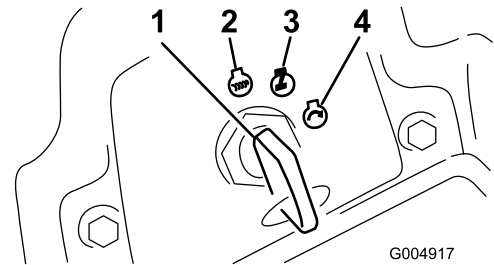

Figure 19
6. Turn the ignition key clockwise to the Run position (Figure 19).
3. Turn the ignition key to the Off position (Figure 19). Wait for all moving parts to stop before leaving the operating position.